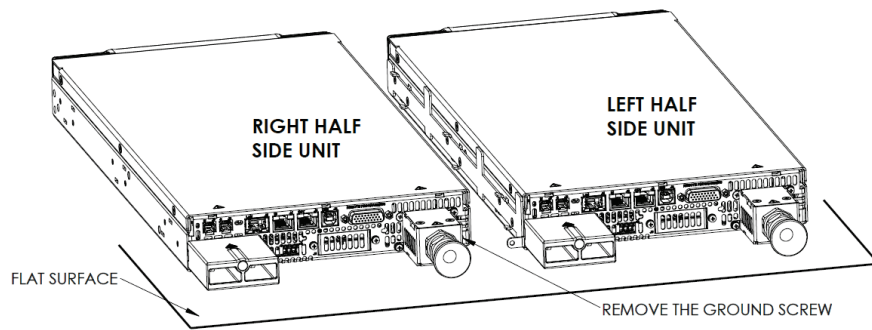

Figure 4-7: Prepare the Units for Assembly
- Place the two units side-by-side on a flat surface and remove the ground screw of the right half side unit as shown in Figure 4-7.